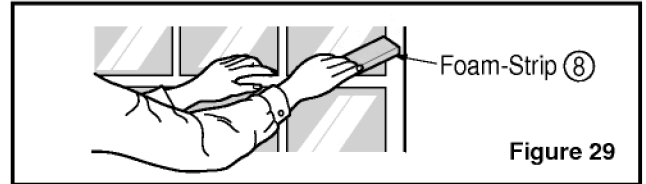

Figure 29
11. Cut the foam-strip \otimes to the proper length and insert between the upper and lower window sash. (See Fig. 29)